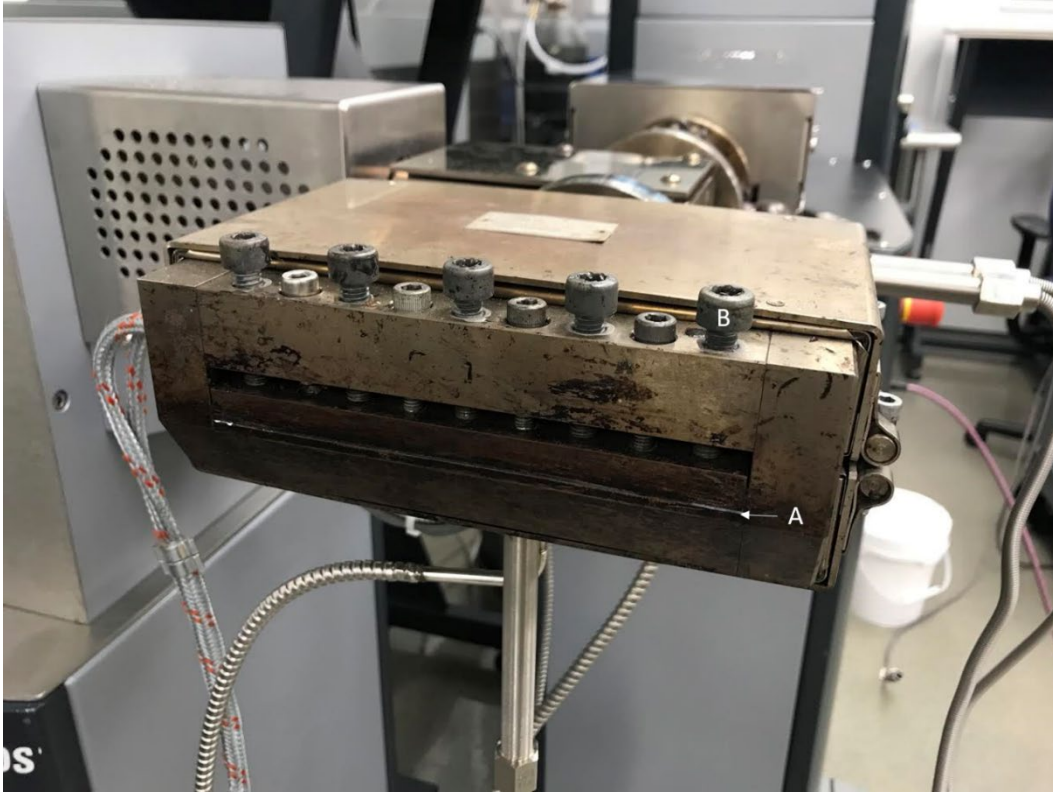

Fig. 5 A) die gap and B) tension screws to control the gap width
- 2) Start the melt pump at a slow screw speed via the dialogue box on the PolySoft software. There may be a slight rise in pressure at the die from residual polymer being pushed out. Check to see that the die gap is at its widest thickness. The thickness can be adjusted by rotating the screws found at the front of the die lip (Fig. 5).